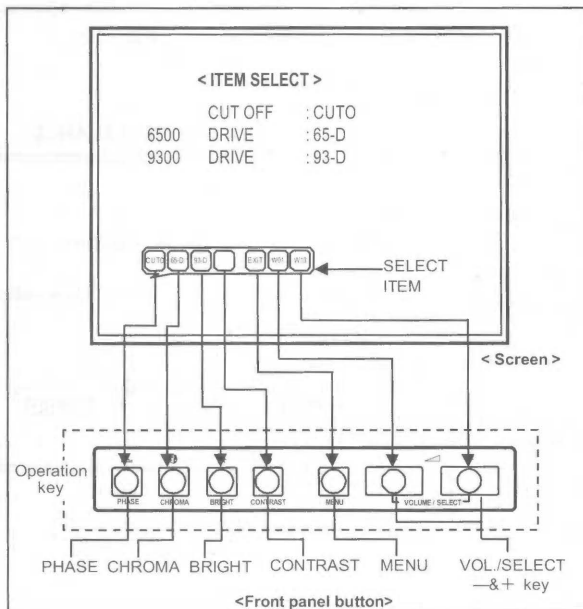

Fig. 9
- ② Then screen displays the WHITE BALANCE BLOCK adjustment screen. (Fig. 9)
- ③ The select item is shown by the SERVICE Number at the lower of the screen.
- ④ Press the **MENU** key few times, then exit from the WHITE BALANCE BLOCK screen to return to the <BLOCK SELECT> screen.